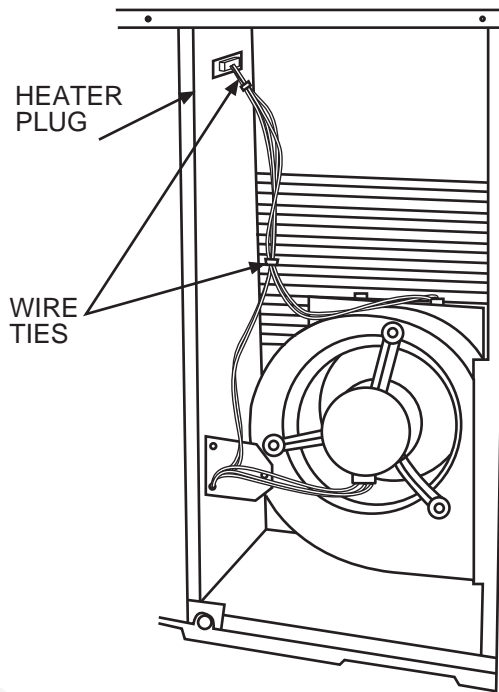

Fig. 9 – Power Connection to Heater
- Return to blower compartment and locate black and yellow power wires from heater module; these wires will terminate in plug connectors that mate with the plug from the heater control installed in Step 13 above. Snap these connectors into place; dress and secure wires to fan wires with wire ties provided (See Fig. 9).